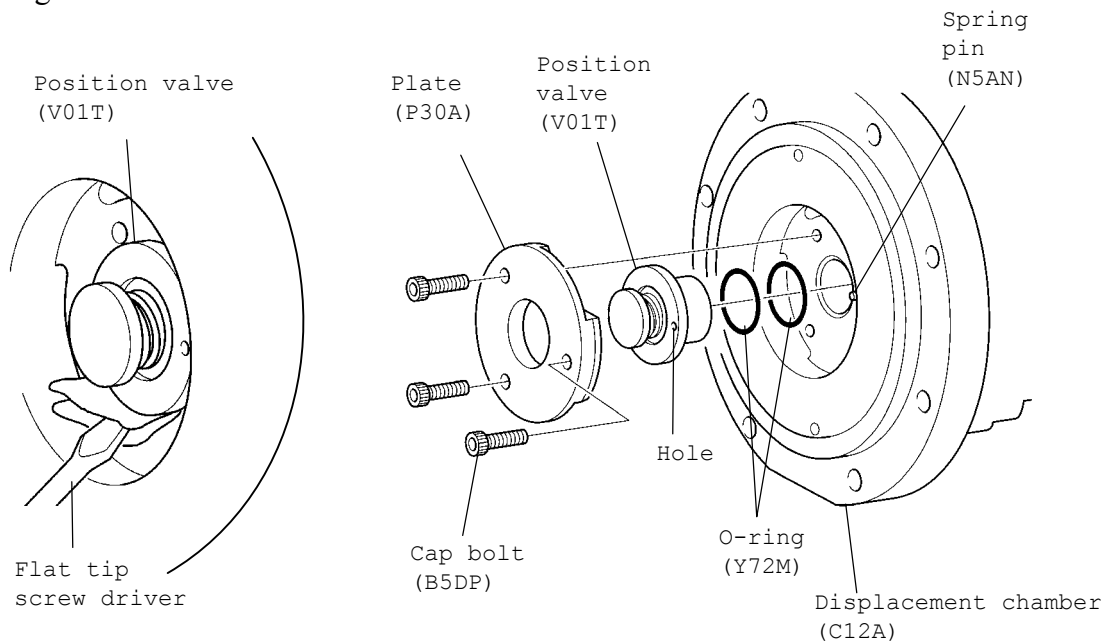

Fig. 7-26 Removal of position valve (DV-200-800)
- (1) Replace the O-ring with a new one.
- (2) Be sure to clean and dry all parts before reassembly.
- (3) Reassemble the position valve by mating the hole of its housing and the positioning spring pin of the displacement chamber. Refer to Fig. 7-26.
- (4) Be sure to fit the two O-rings in the specified positions. When the O-rings are set, apply small amount of grease to their surfaces and insert them gently without damaging them. Refer to Fig. 7-26.